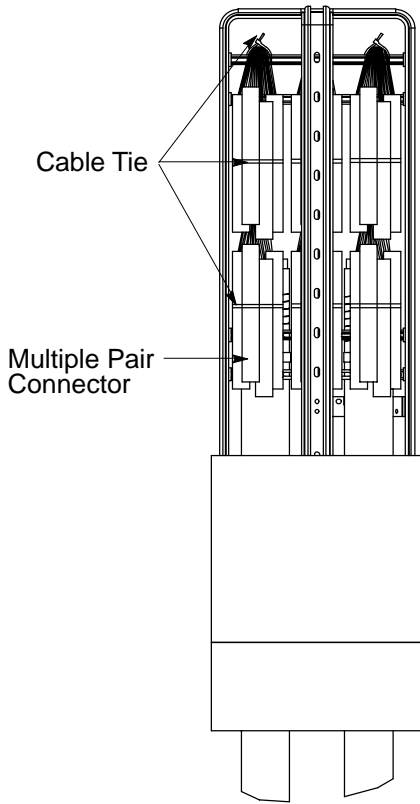

Figure 3. CPLS – Multiple Pair Splice Configuration
9.	Reference Figures 3, 4, and 5 for splicing guidelines within your company.